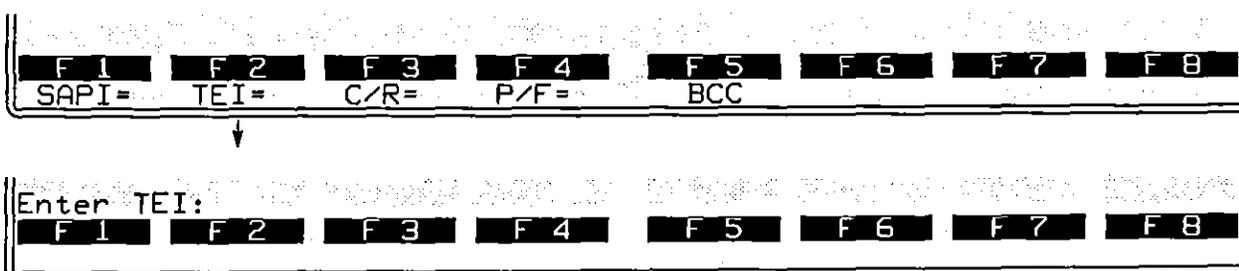

Figure 42-10 The TEI is an optional condition within all frame-type conditions.
7. **TEI.** Like SAPI, a TEI condition may be added to all frame types. Press the softkey for TEI=, shown in Figure 42-10. Then enter the 7-bit TEI value as two hex digits in a range from 00 to 7F. (Do not use the **HEX** key.)